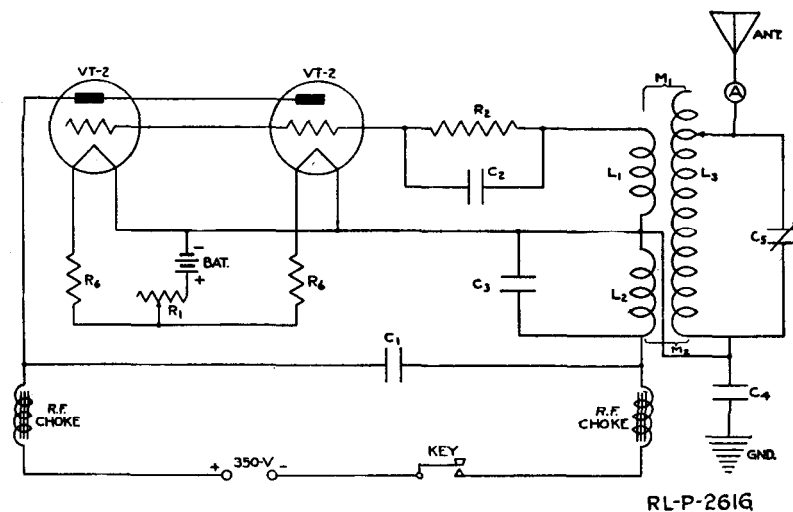

Fig. 71.—Schematic diagram of connections in the transmitter of the SCR-79-A set.
- (16) What is the purpose of the switch "S₂" on the front of the panel?
- (17) How is the transmitted wave length varied?
- (18) Is the filament current of the transmitting tubes fixed? Explain the answer.
- (19) For what are the two binding posts marked "+300 V" and "-300 V" used?
- (20) What connection is made to the two binding posts marked "+Dyn" and "-Dyn"?
(22) *What is the purpose of the "Wave length adjustment" condenser? (See Fig. 71.)*